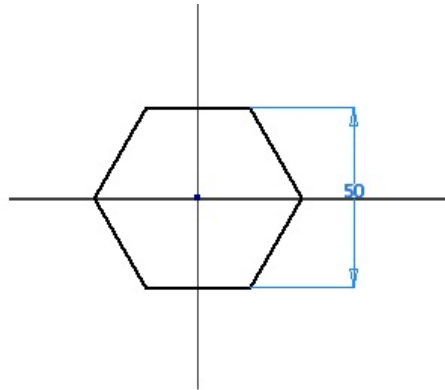

Figure 17-37 Sketch for creating the Hexagonal shaft
2. Create a hexagon on the XY-plane, as shown in Figure 17-37.